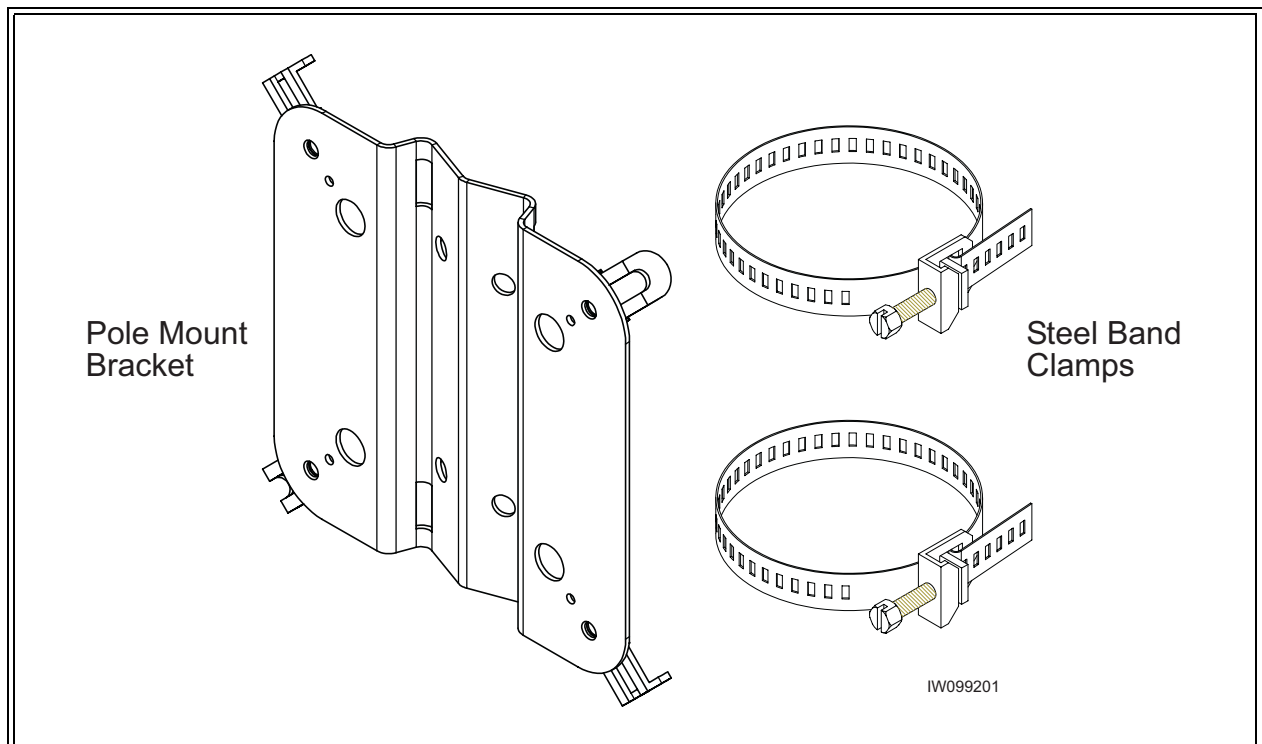

Figure 4-7 Non-Adjustable Elevation Single Link CX Bracket
- A See Figure 4-7. Assemble the two steel band clamps to the pole mount bracket.